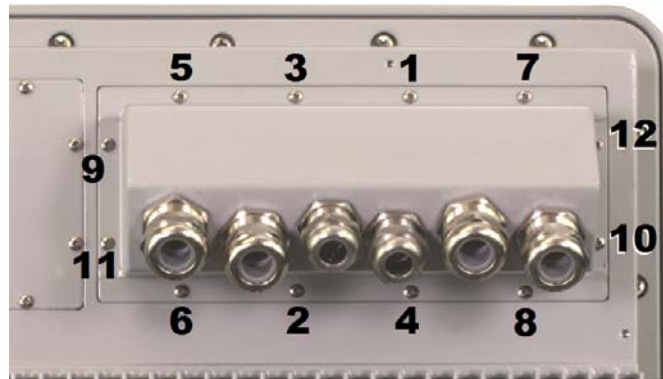

Figure 5.3 Junction Box Incremental Screw Tightening Order
1. Loosen the twelve (12) captive Phillips-head screws securing the junction box to the housing, as shown in Figure 5.3.
2. Carefully remove the junction box from the housing. Make sure not to strain the cables connecting the two (2) USB connectors to the USB ports.
2. Place the junction box on the housing and tighten the captive screws to 0.8 Nm (7 in.-lb.) in an inside-to-outside crisscross pattern using the incremental order shown in Figure 5.3 to ensure the plate seals correctly.